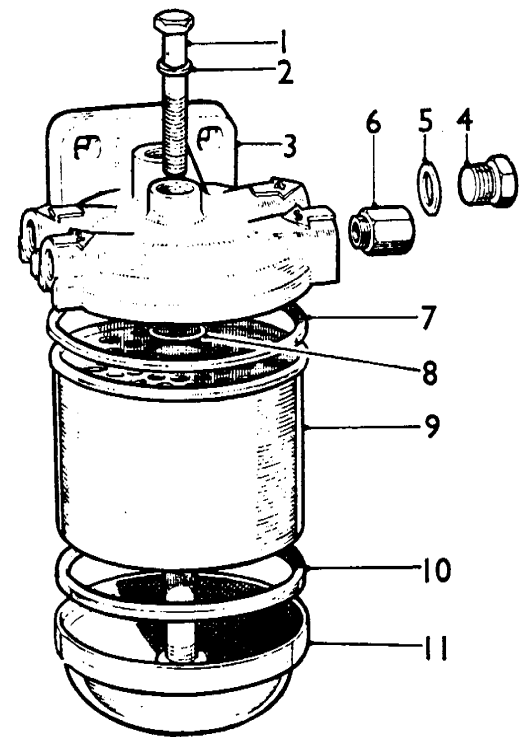

Fig. 3
3. The secondary fuel filter (Fig. 3) is mounted to a bracket on the front right side of the engine. It is an element type filter and must be replaced every 300 hours unless the condition of the fuel warrants more regular attention. To remove filter element, proceed as follows: